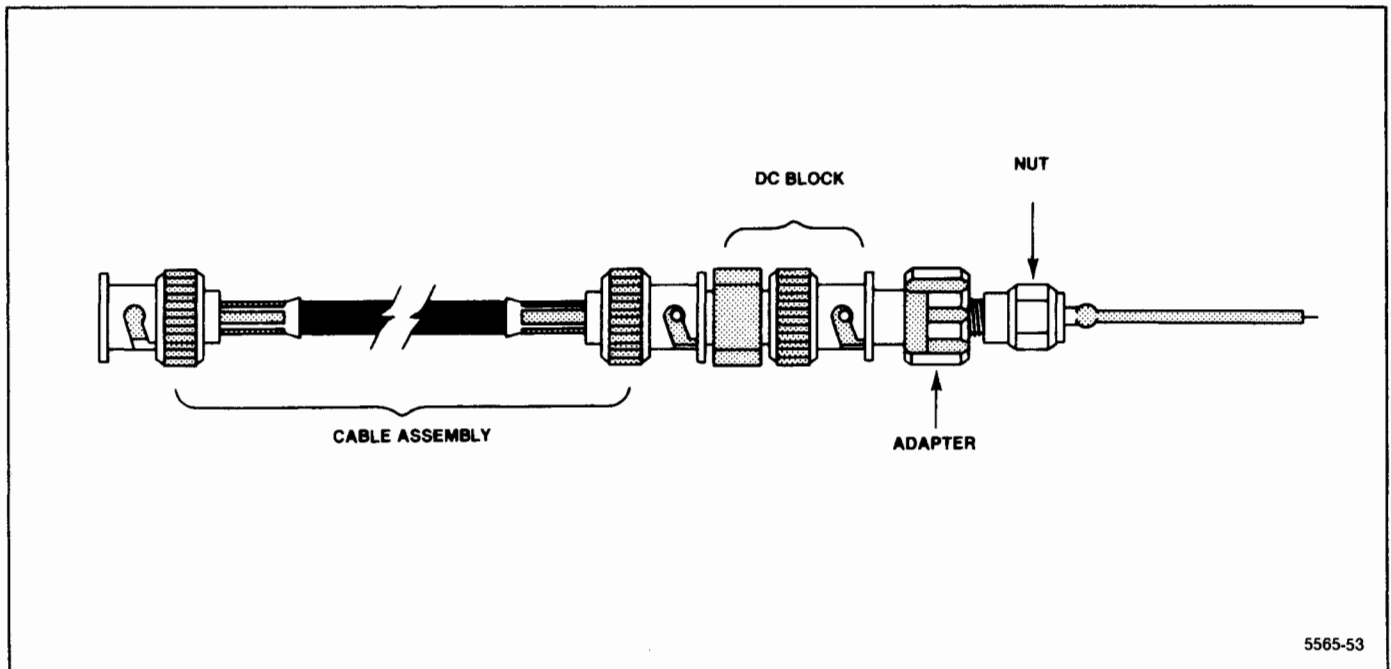

Figure 6-22. Coaxial test probe construction details.
(1) Check for 0 dBm \pm 3 dB output power at the unbuffered port, P220.
(2) Connect the test spectrum analyzer to P222, terminate P220 in 50 Ω , then check for an output level of +10 dBm \pm 3 dB from the buffered port.
a. Use a probe, consisting of a short length of semi-rigid coaxial cable with a dc block (see Figure 6-22), to connect the output of the reference mixer at C2204 to the input of the test spectrum analyzer. Ground the outer shield of the coaxial cable against the 2nd LO housing.
When making power measurements of microwave circuitry, at circuit board interfaces, use a coaxial probe with very little stray inductance (see Figure 6-22). Ground the outer conductor of the probe to the circuit housing as close as possible to the measurement port. Disconnect other loads from the measurement point.